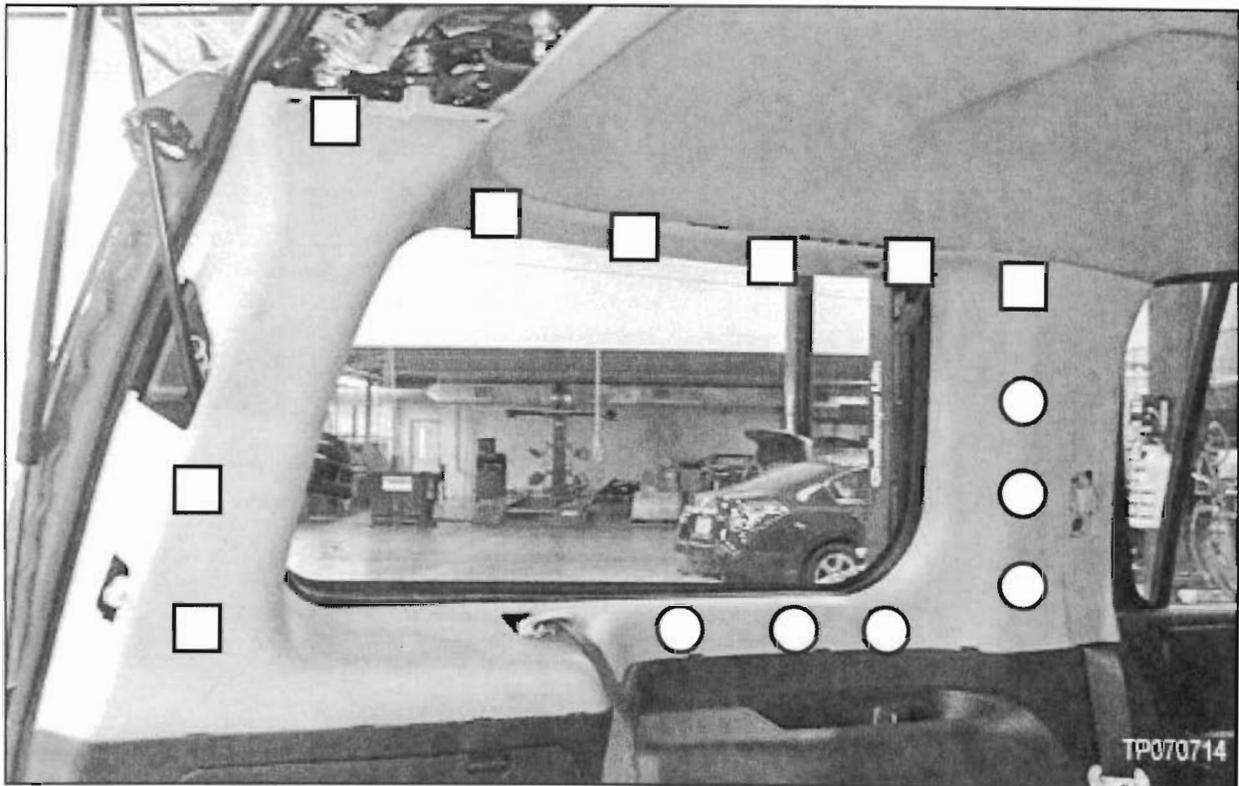

Figure 12
- Pop loose all of the clips shown in Figure 12.